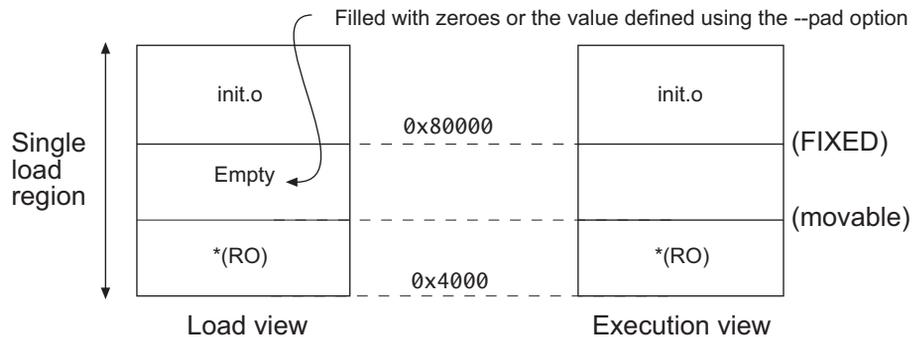

Figure 5-9 Memory Map for fixed execution regions
- use the FIXED execution region attribute to ensure that the load address and execution address of a specific region are the same. See Example 5-9 and Figure 5-9 on page 5-34.